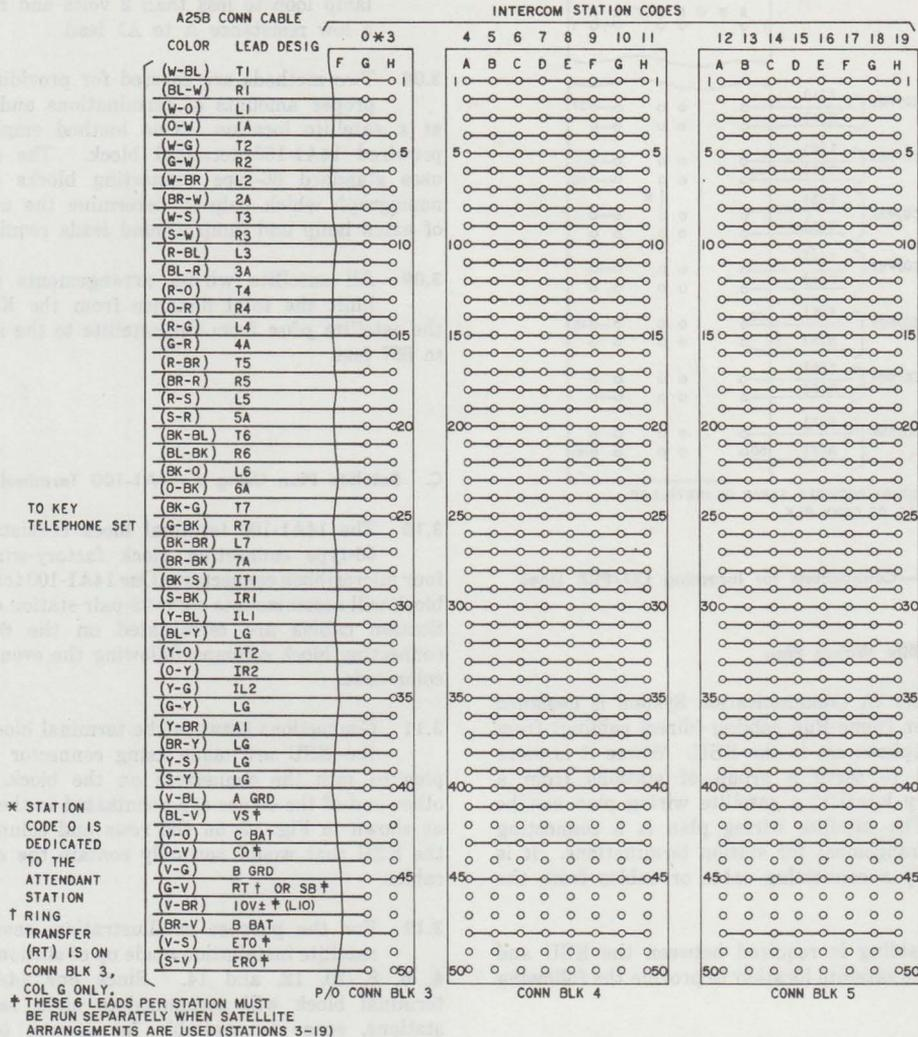

Fig. 16—Station Connections
- (8) Terminate the station cables. Cut down the A25B connector cables on connecting blocks 3, 4, and 5 as shown in Fig. 16. Intercom station code 0 (attendant station) is terminated on column G of connecting block 3. Intercom station code 3 is terminated on column H of connecting block 3, and station codes 4 through 19 are terminated on columns A through H on connecting blocks 4 and 5 as shown in Fig. 16. **A direct cable run to any station may not exceed 667 feet of 24-gauge cable.**
- (9) Place or remove option straps.
- (10) Install power cord. Do not connect to ac source at this time.
- (11) Close and latch carrier assembly.